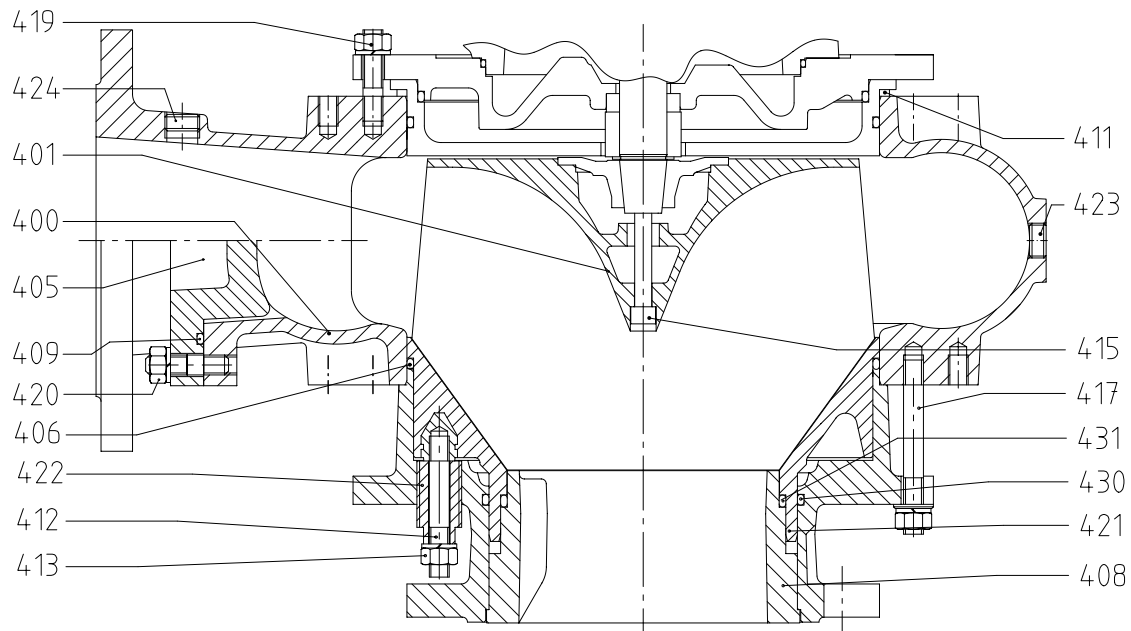

Fig. 7: E05K - L20K regulable
**Do not yet disassemble the regulator studs (412)! They are loctited in place, and must be heated with a torch to break the locktite bond after removing of the liner.**
The wear ring (408) should only be removed from suction casing or volute casing if badly damaged. Therefore heat the mating surfaces with a torch to destroy the special adhesive between these two parts. Then press out suction ring with a hydraulic press (Fig. 7).
**c) For all other pumps with "regulable" feature (Fig. 7)**